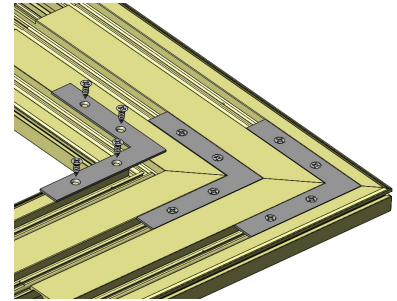

Figure 16:
1. Remove the “L-Shaped” braces and Screw #8 FHP - A - UC, 1/2", SS, Clear from the frame pack. There should be (4) screws per brace (Figure 16).